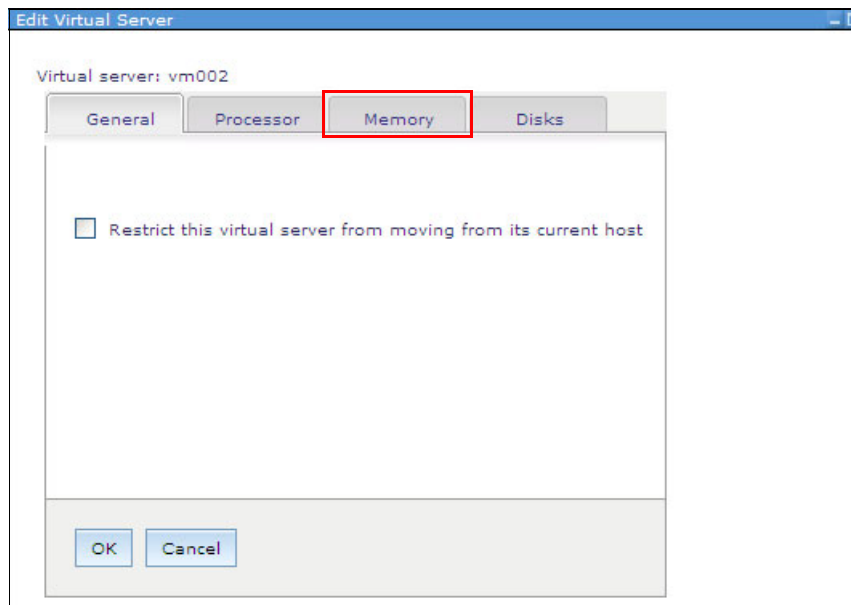

Figure 11-43 Edit Virtual Server window
- The Edit Virtual Server window opens. Click the **Memory** tab, as shown in Figure 11-43.